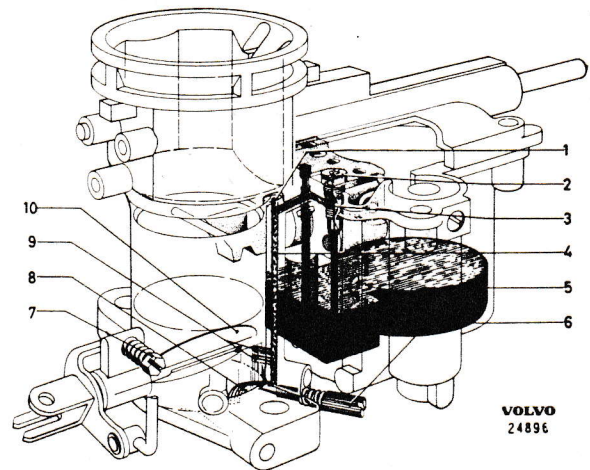

Fig. 11. Idling system
While the engine is idling, the throttle flap is almost completely closed (regulated by means of a stop screw 7, Fig. 11) whereby the degree of vacuum around and under the flap is very large. Suction through the idling channel (4) will then be considerable and fuel will be sucked up from the channel above the main jet (5) through a hole and the idling jet (3) to the idling channel which terminates in the carburetor venturi with one large and two small holes.